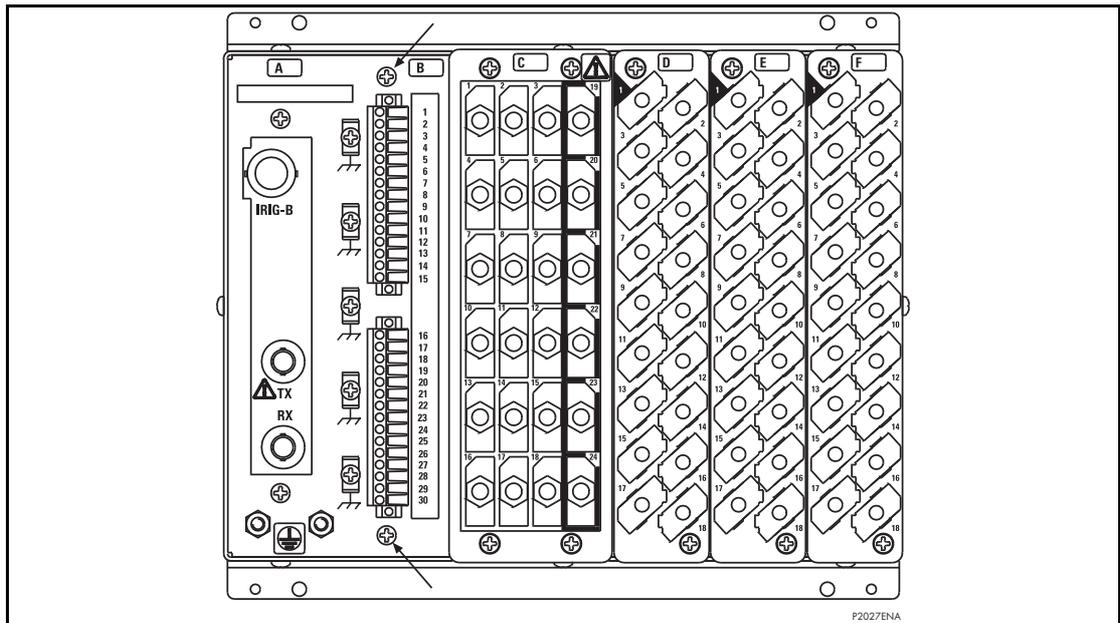

Figure 10: Location of securing screws for CLIO input board
- To replace a faulty CLIO board, first remove the two 15-way terminal blocks. Each block is fastened to its other half by slotted screws above and below the row of terminals, as shown in Figure 10. Remove these screws carefully as they are not captive in the terminal blocks.
- The CLIO board is secured in the case by two screws accessible from the rear of the relay, one at the top and another at the bottom, as shown in Figure 10. Remove these screws carefully as they are not captive in the rear panel of the relay.